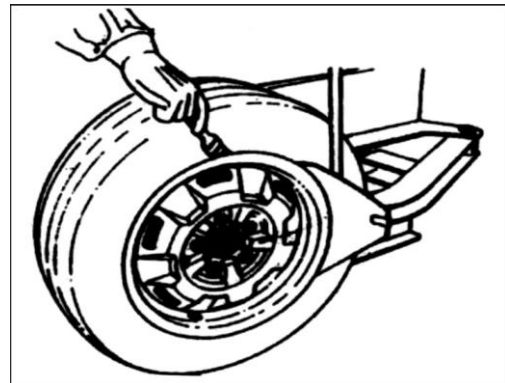

FIG9
- a) Deflate the air in the tire completely and pull out the core. Use the special tool to detach the weight on the rim. Place the tire between then bead breaking blade and tire pressing runner clog (FIG9).